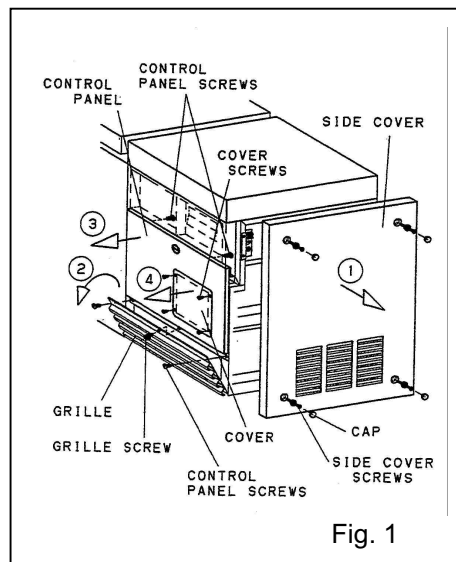

Fig. 1
2. Remove the side cover by loosening four screws. (Fig.1)
3. After removing a grille screw, open the grille as shown in Fig. 1.
4. Remove the control panel by loosening two screws on the lower outside (A) and upper inside (B) of the control panel. (Fig. 1)
5. Detach the cover on the control panel by removing four screws. (Fig. 1)